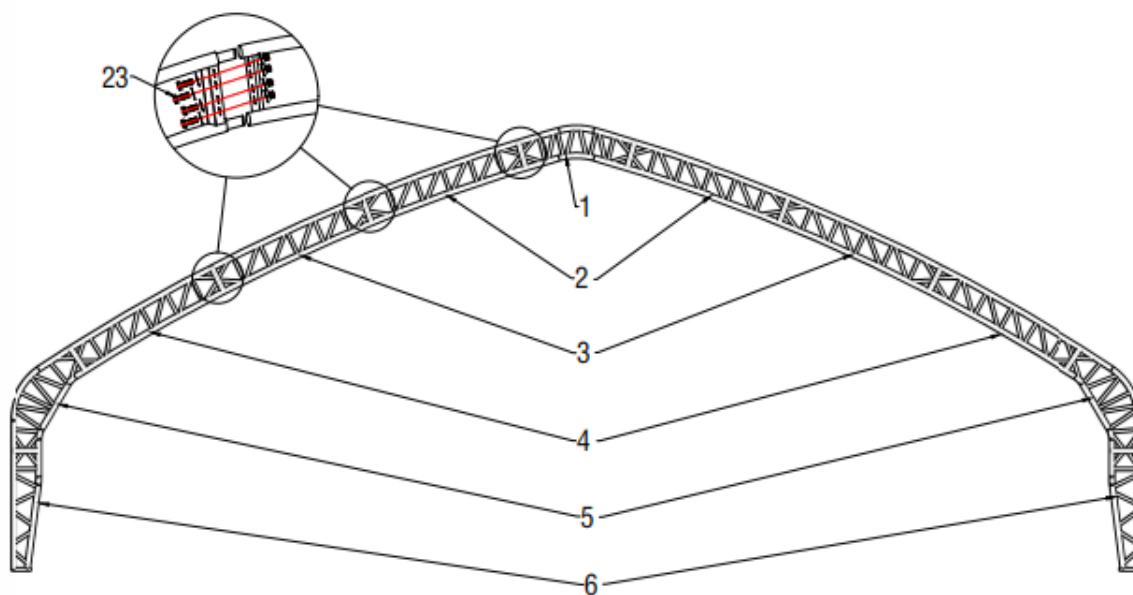
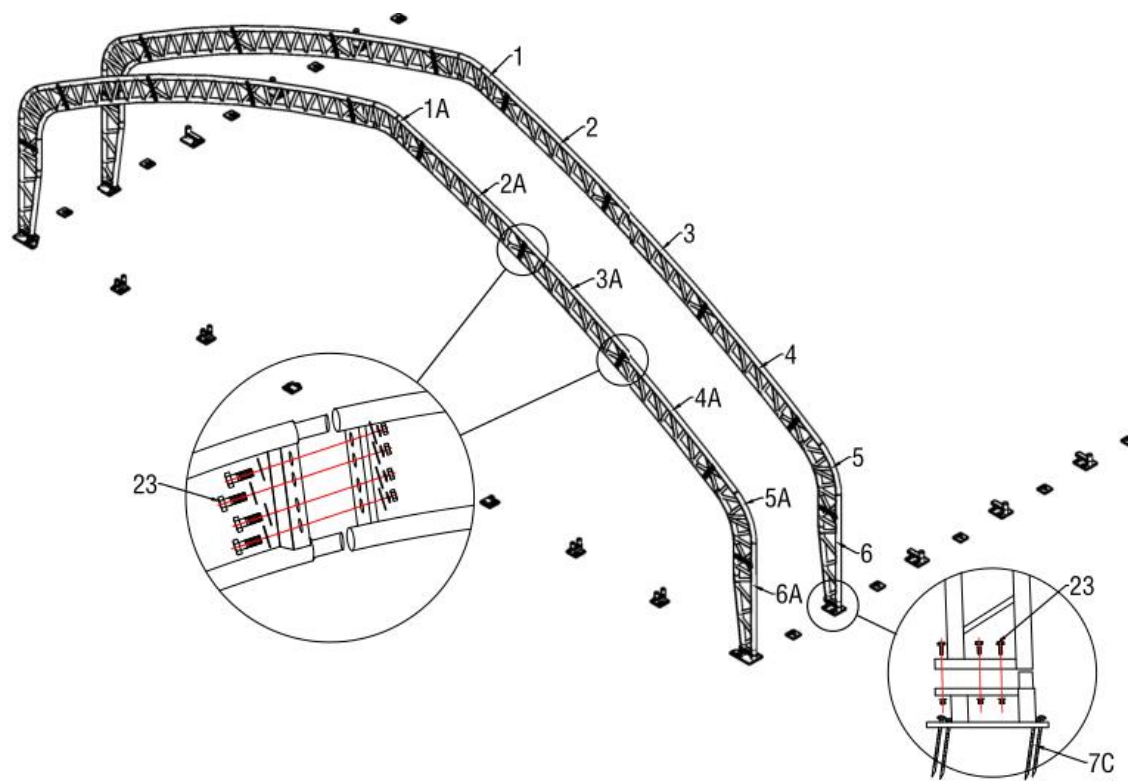

Figure 4
Figure 5
2. Figure 4 shows to connect the 1x top bent tube (No.1), 2x upper bent tube (No.2), 2x middle bent tube (No.3), 2x lower bent tube (No.4), 2x shoulder bent tube (No.5) and 2x standing leg (No.6) with screw M14x50 (No.23), which makes in the second arch. (See Figure 5). Do not install the bolts on top of the truss frame where the fabric will rest.